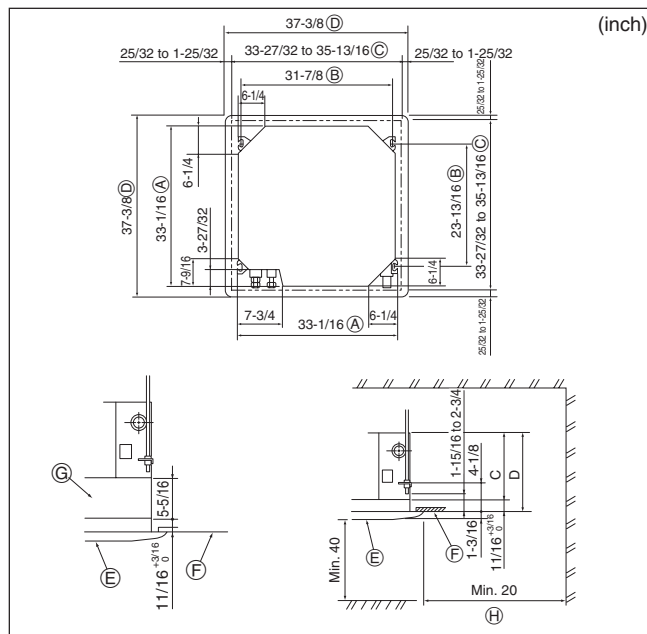

Fig. 3-2
④	Band	8
⑤	Screw with washer (M5 × 25) for mounting grille	4
⑥	Drain socket	1
⑦	Insulation	1
3.2. Ceiling openings and suspension bolt installation locations (Fig. 3-2)
④ Outer side of main unit